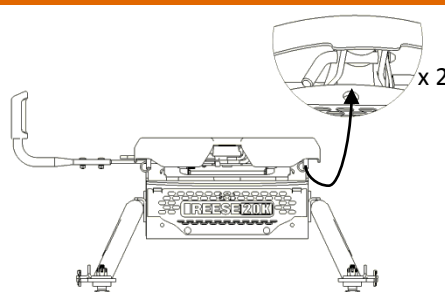

FIG. 6
1. In order to ensure quiet performance, apply grease per page 3, figure 9A. Place head unit on top of center section. Insert pull pin as shown in figure 6, and secure with spring clips. Both sides required.